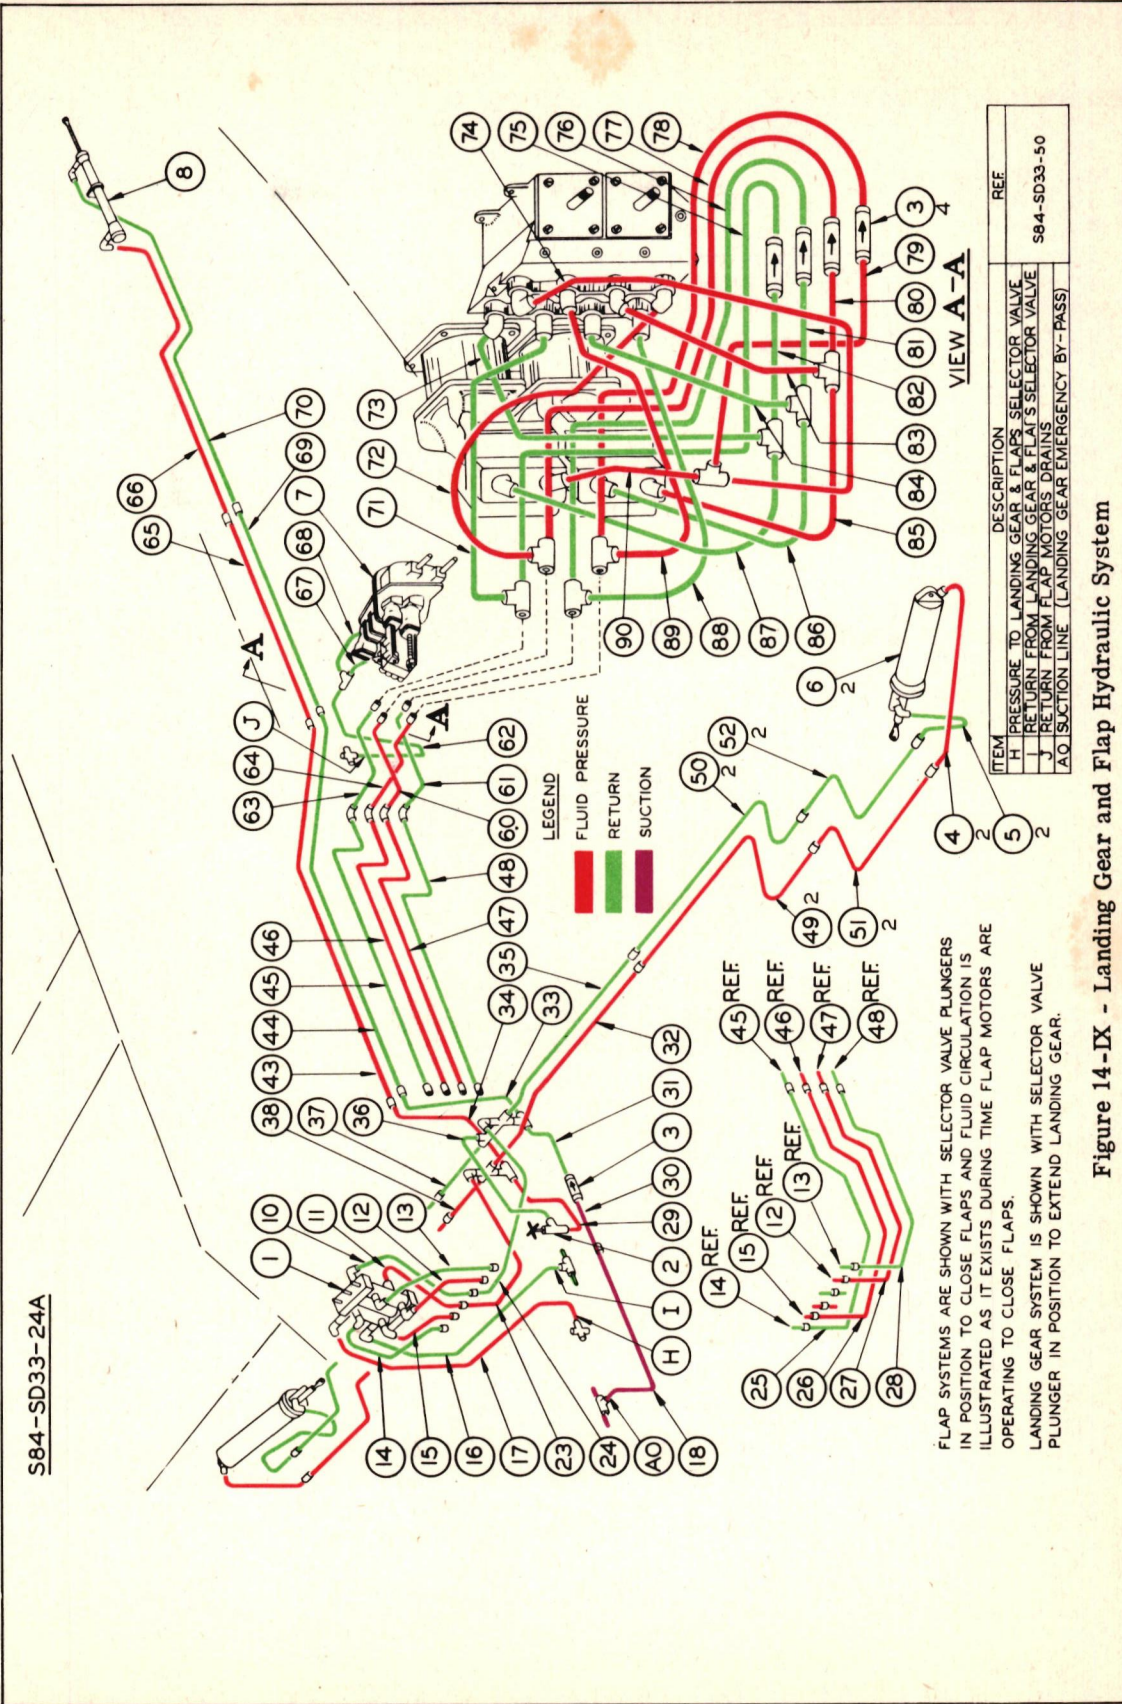
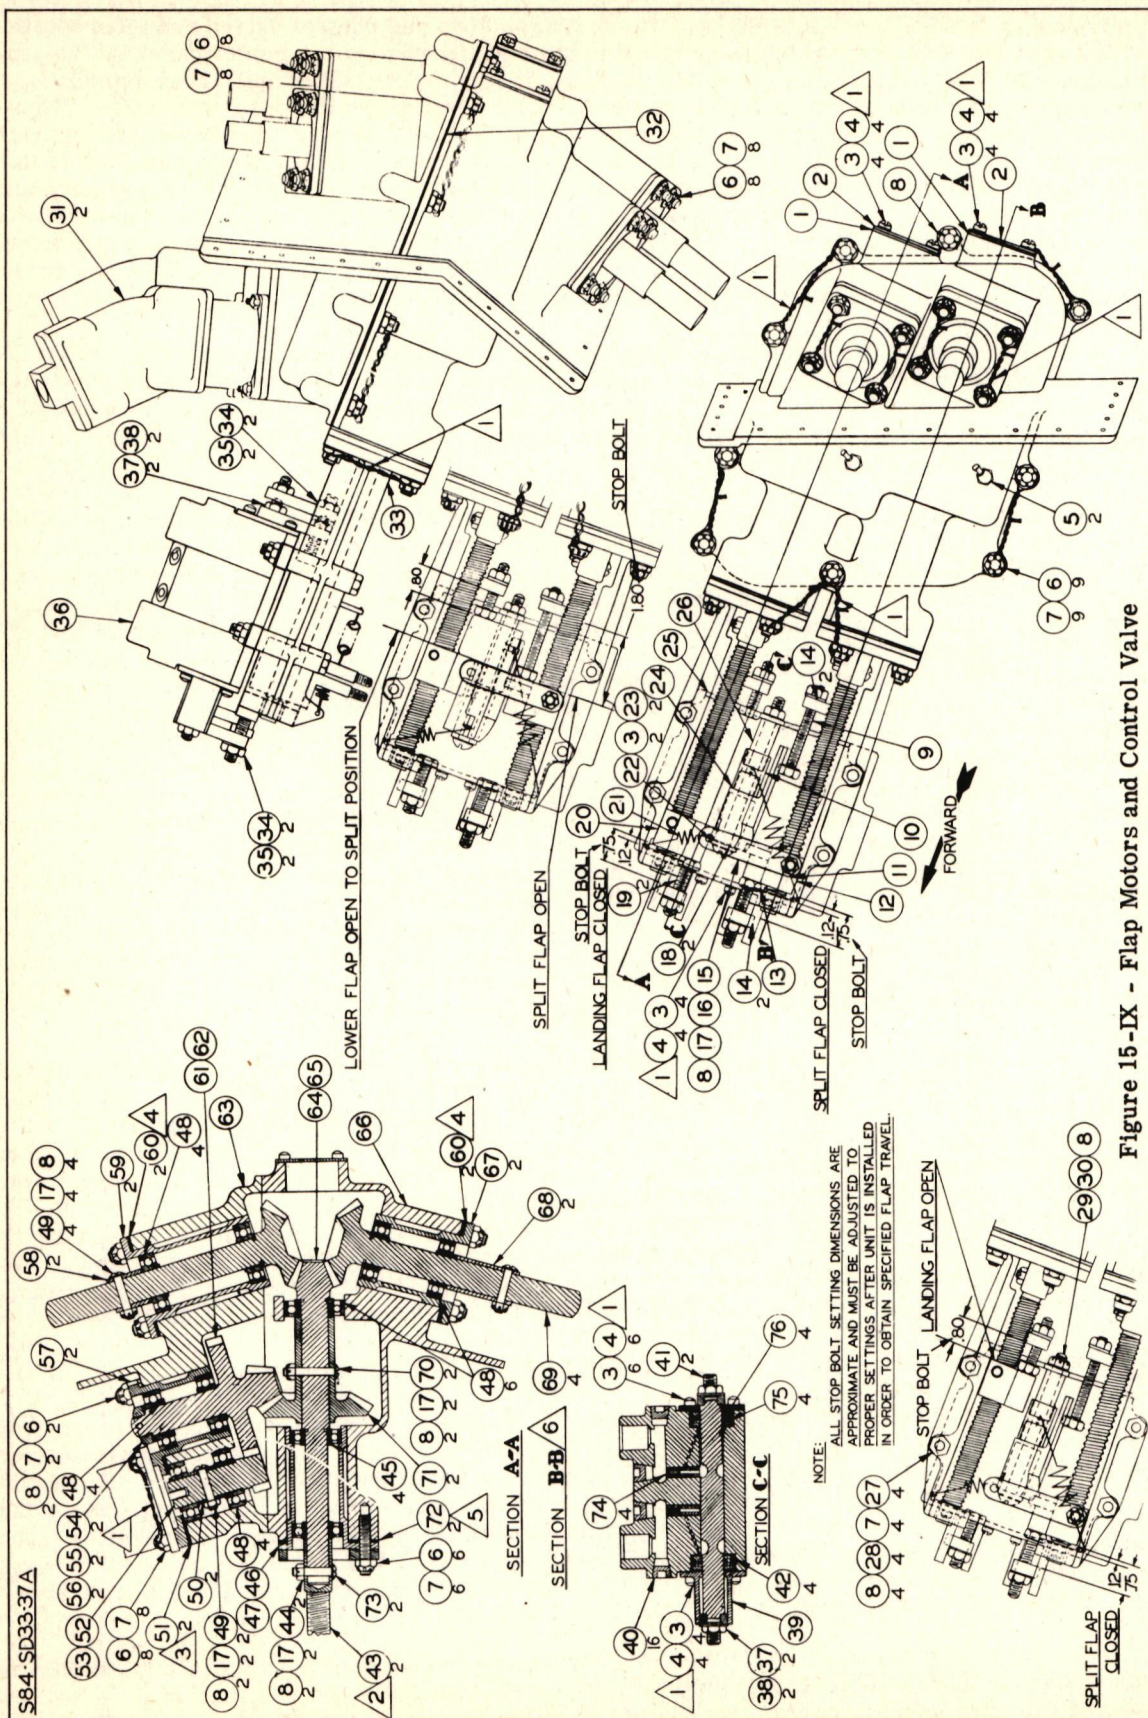

Figure 14-IX - Landing Gear and Flap Hydraulic System
Figure 15-IX - Flap Motors and Control Valve
their proper "OPEN" or "CLOSED" positions. The motors and control valves are incorporated with a gear box assembly which is installed in the trailing edge of the center panel on the airplane center line. The entire assembly is shown on fig. 15-IX. Two torque tubes extend outboard from each side of the gear box to operate screw-type jacks through bevel gears. These jacks are located at appropriate points along the aft face of the rear wing beam and operate the flaps. Note that the upper torque tube and jacks operate the lower flaps, and vice versa. The motor control valves are mounted at the forward end of the main gear box assembly and are themselves controlled by moving blocks which ride on two threaded shafts. These shafts are driven from the respective flap operating gears of the main gear box. A cam arrangement is also incorporated in the valve control mechanism for limiting the extension of the lower flaps to 25 degrees when they are used with the upper flaps in diving.
(2) Operation.- The mechanical features of this flap system are discussed in section IV. Only the hydraulic action and the directly related mechanical action will be discussed here. Refer to fig. 14-IX for location and arrangement of the hydraulic units. Refer to the schematic fig. 8-IX to trace the fluid flow as described herein. Refer to fig. 15-IX for details of the motor control valve arrangement.
(a) Landing Flaps.- Referring to fig. 8-IX, note that the landing flap selector valve detail, shown separate from the system, is positioned to extend the landing flaps. With the plunger in the position shown, fluid under pressure from the main hydraulic system is directed through lines to port "B" of the landing flap motor control valve. The ends of the control valve plunger are .050 inch smaller in diameter than the center portion, and the fluid pressure acting through the aft bleed passage operates against the effective difference in piston area to move the plunger to the full forward position, as shown. Fluid under pressure then flows to the landing flap motor, causes it to rotate, and returns through port "A" of the control valve, also through bypass containing check valve, and thence through the selector valve to the main system return line. As the motor rotates and operates the flap gear mechanism, the landing flaps open. At the same time, a block riding on a threaded shaft, which extends forward from the gear box, is moved aft by rotation of the shaft (see fig. 15-IX). As the flaps near their full "OPEN" position, the block engages an adjustable stop attached to the aft end of the valve plunger and carries the plunger aft with it, overcoming the fluid pressure which is tending to hold the valve open by holding the plunger forward. As the flaps reach their full "OPEN" position, the block forces the plunger far enough aft to cut off the fluid-flow to and from the motor, and the motor stops. The fluid is thus locked in the lines to and from the motor and the landing flap mechanism will remain in the "DOWN" position as long as the selector valve is left in the "DOWN" (or "NEUTRAL") position. The full "DOWN" position of the landing flap is 55 degrees from "NEUTRAL."
(b) Diving Flaps.- Refer to fig. 15-IX and note that the upper flaps operate in exactly the same manner as the lower flaps. However, the control handle on the selector valve is so arranged that movement to operate the upper flap valve also operates the lower flap valve. The